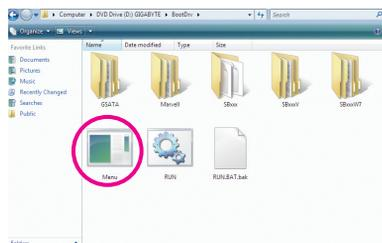
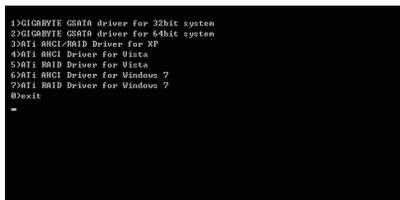

Figure 2
Figure 3
- 2: From your optical drive folder, double click the **Menu.exe** file in the **BootDrv** folder (Figure 2). A Command Prompt window will open similar to that in Figure 3.
- 3: Insert the blank formatted disk. Select the controller driver by pressing the corresponding letter from the menu and press <Enter>. For example, from the menu in Figure 3, to install Windows XP to the RAID/AHCI hard drives, select **3) ATi AHCI/RAID Driver for XP**.